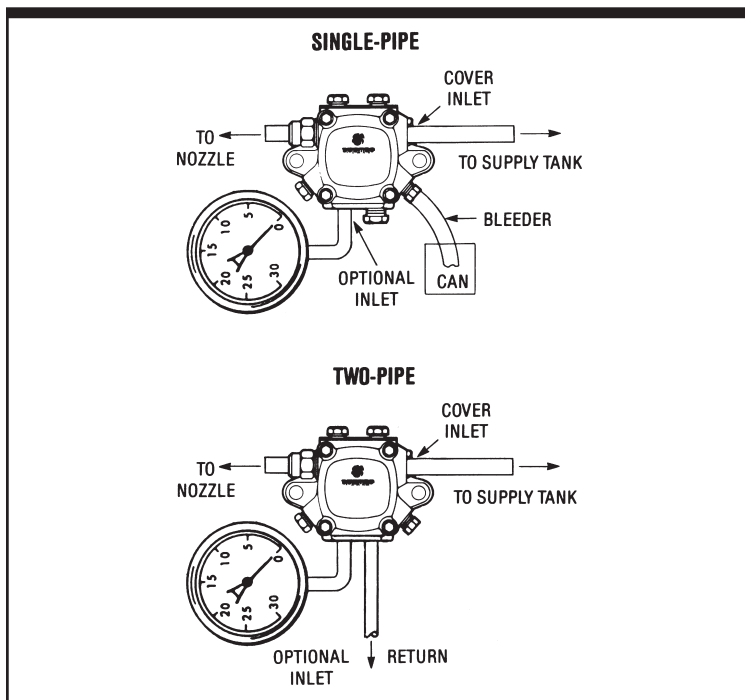

FIGURE 3 VACUUM GAGE LOCATION FOR SYSTEM TEST
Step 1. Install vacuum gage in the optional inlet port or tee into the supply line at the fuel unit. (If the optional inlet is used for the supply line, install the gage in the cover inlet. See Figure 3.)